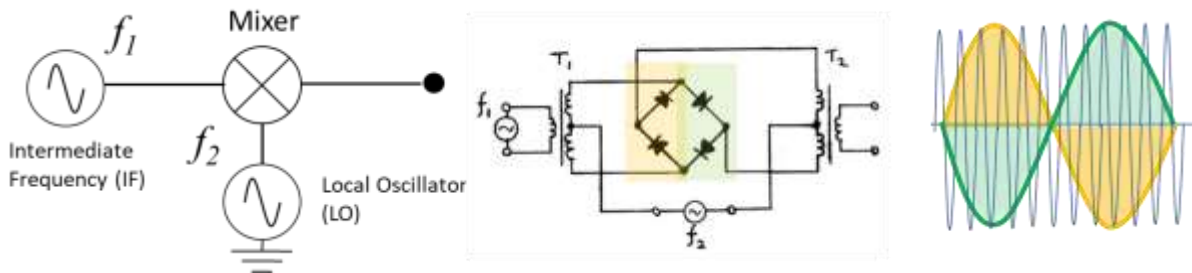

Figure 4c. A balanced mixer
A mixer does not multiply the signal but adds and subtracts two signals together. We shall call one frequency the Local Oscillator (LO) and the Other Frequency the Intermediate Frequency (IF). Referring to figure 4c, when an LO is applied the positive swing turns on green half of the bridge and the negative swing turns on the yellow half, thus only allowing the input frequency current to flow during these on and off times. If the LO frequency is much greater than the IF, which is usually the case, the high frequency switching of the diode circuit produces a time domain envelop of the lower frequency, or effectively adding the LO and the IF.